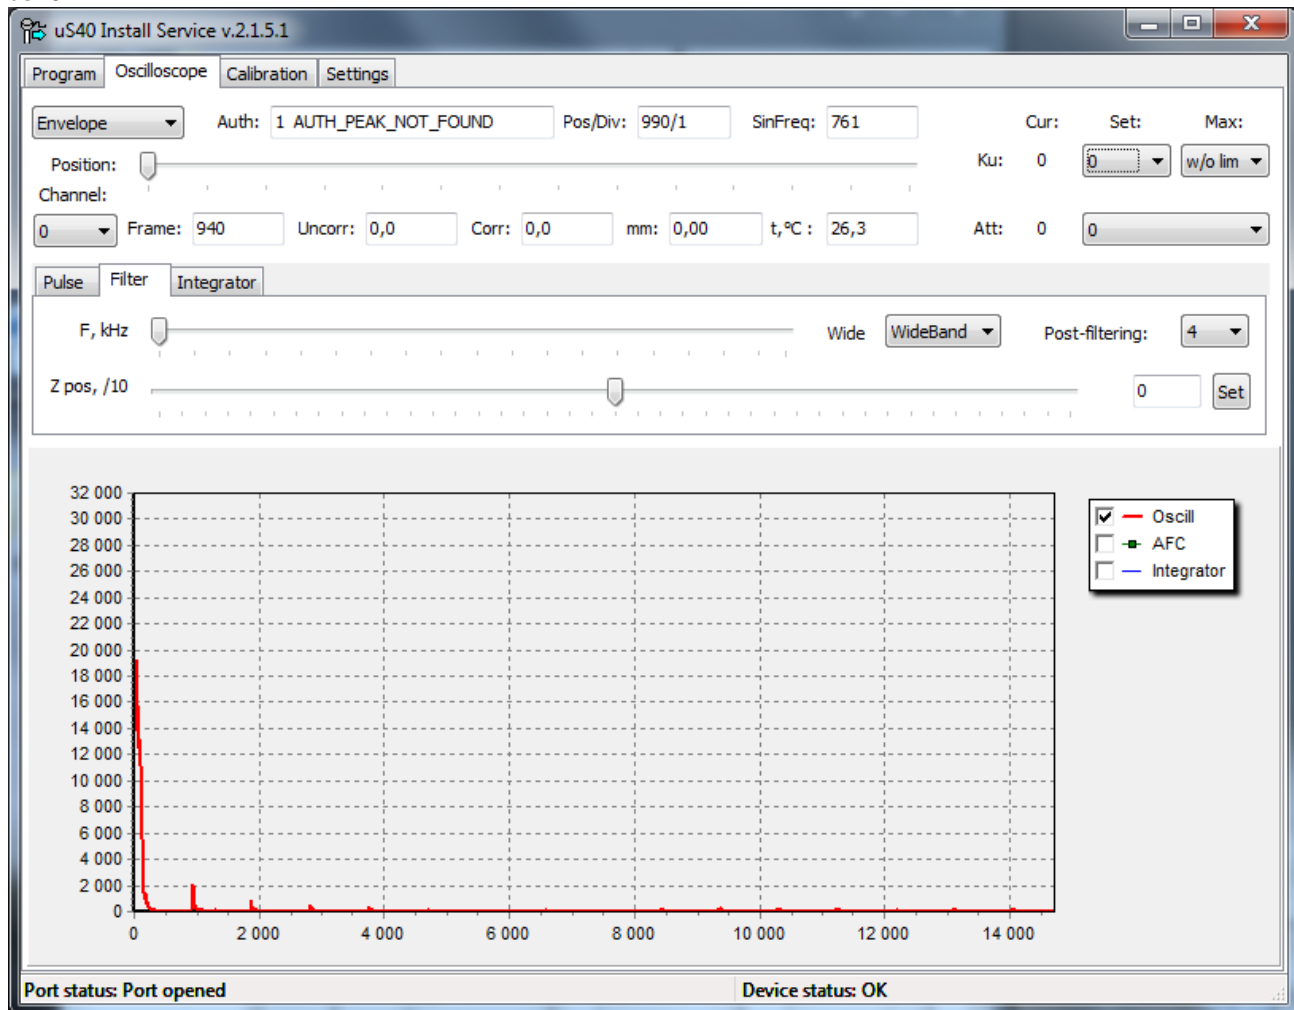

Fig. A.13
c) On the “Filter” tab (Fig. A.13) in the “F, kHz” field, select the **WideBand** value (wideband filtering) from the drop-down menu. In the offset field “Z pos,/10” set the value to **0**. Press the “Set” button.